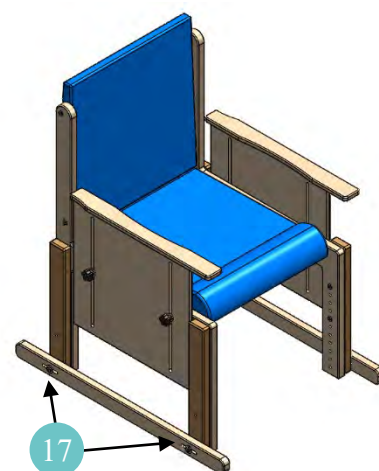

Figure 13
- The screws fit into the chair outriggers on each side of the chair (*Ref. 17 of Figure 13*).
- The depth of the ski can be adjusted by loosening the four screws (*Ref. 17 of Figure 13*), position the ski in the desired position and tighten all four screws (*Ref. 17 of Figure 13*).